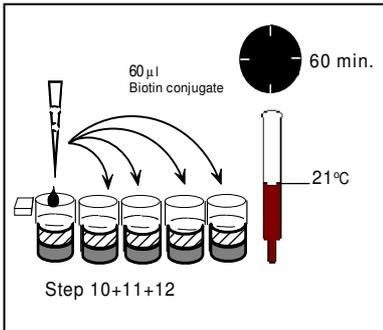

Fig. 3 Biotin Conjugate procedure
10. Add 60 μ L of Biotin Conjugate to each well. (see fig. 3)